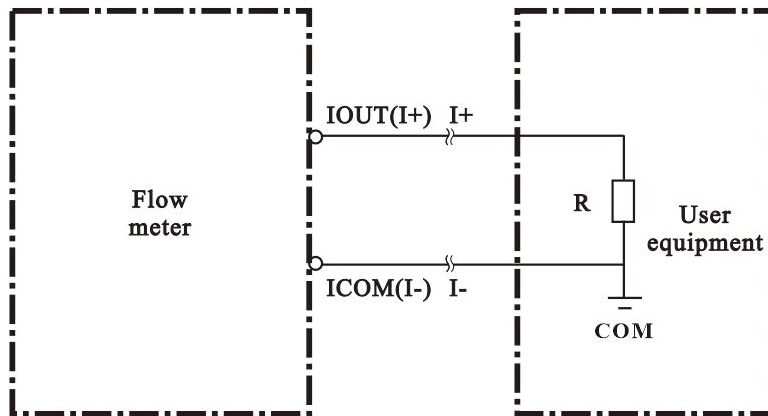

Figure 11
7.5.1 Output mode 1: Two-line active current output (Figure 11)